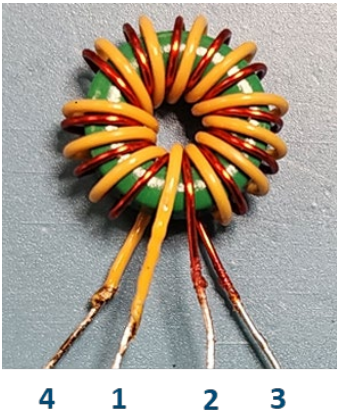

Figure 13 – Input CMC Build Diagram.
1. Winding 1 – Wind 12 turns of Item [2] and [3] in bifilar wound as shown in figure 13.